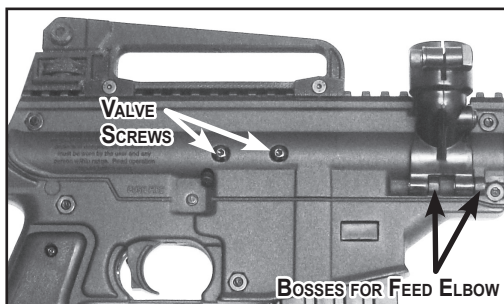

Figure 14: Valve Screws and Feed Elbow
1. To remove the Power Tube and **Valve (5)**, unscrew two **Screws (8)** from the right side of the receiver shown in Figure 14.
2. To remove the Valve from the Power Tube, use a wrench to slowly unscrew the **Gas Line (6)** fitting. Once the fitting is out, the Valve will slide out the back of the power tube.